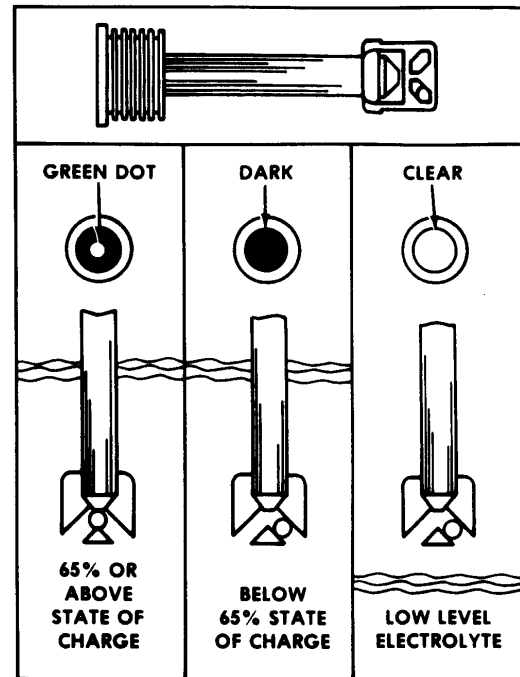

FIGURE 13: TEST INDICATOR
The test indicator in the battery cover is to be used with accepted diagnostic procedures only. It must not be used to determine if the battery is good or bad, charged or discharged. The test indicator is a built-in hydrometer in one cell that provides visual information for battery testing (Fig. 13).
1. Connect a voltmeter, ammeter, and a variable load resistance as illustrated in figure 13.